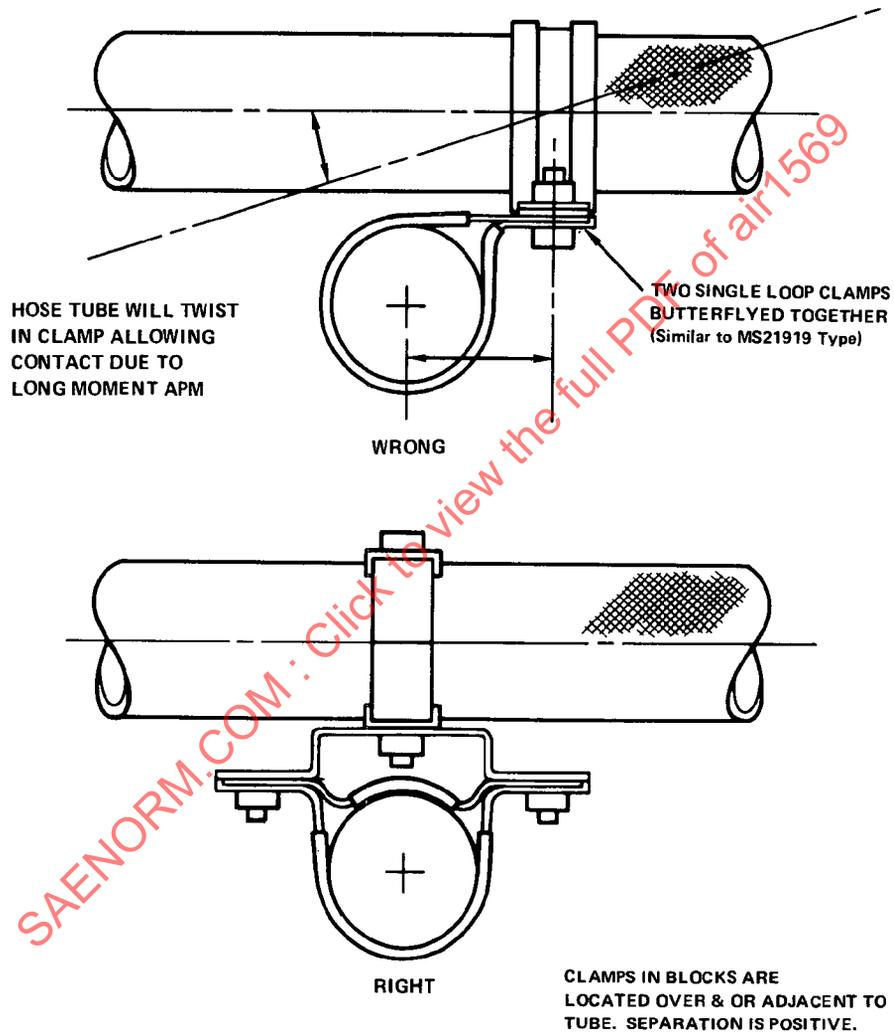

FIGURE 6
5.2.4.3 Where clamping is required in order to maintain clearance with crossing tubing or hose runs, a combination of clamps and brackets is sometimes required. These should be designed so that the clamps are near the tubing crossover point and thus will maintain a positive clearance. (See Fig. 6).